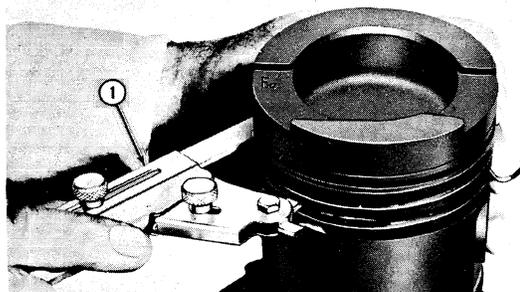

Figure 33
2. **PISTON:** If the piston is to be re-installed, inspect for damage to the ring lands skirts and pin bosses, use a piston ring groove cleaner to remove carbon deposits, Figure 33.